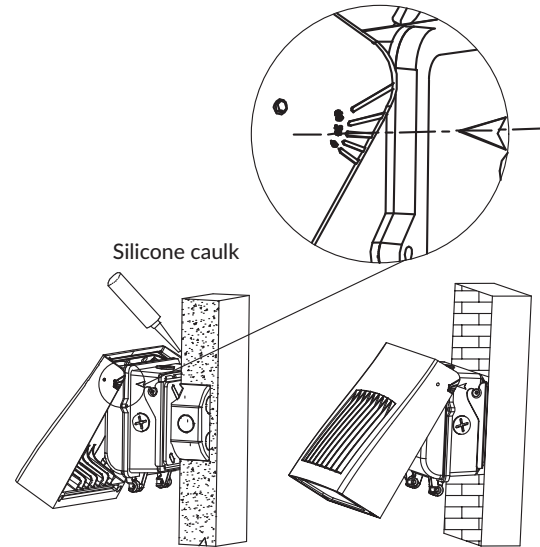

Figure 9
- Applying silicone caulk around the perimeter of the driver box where it meets the wall to ensure a water-tight seal. Finally adjust the fixture head angle according to project needs and secure it by locking the side hex screw and installation is complete. (figure 9).